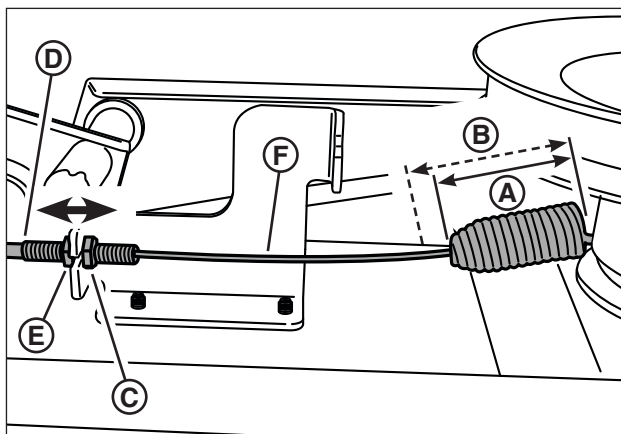

Figure 41: PTO (mower blade belt) cable adjustment (components removed for clarity)
2. With the unit off and the mower blade disengaged (refer to "How To Engage The Mower Blade"), measure the body of the blade engage spring (A, Figure 41).
3. Engage the mower blade, and measure the extended blade spring (B). It should measure 3/8" to 1/2" longer than the unextended spring measurement in Step 2.
4. If adjustment is needed, disengage the mower blade, loosen the rear jam nut (C) securing the PTO cable housing (D), and adjust the cable housing in or out using the front jam nut (E).